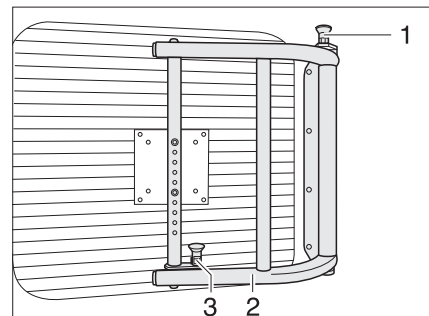

Fig. 63 Swivel arm for flat screen
- Pull up the release knobs (Bild 63,1 and 3) to unlock the swivel arm.
- Swivel the flat screen with the holder (Bild 63,2) into the desired position.